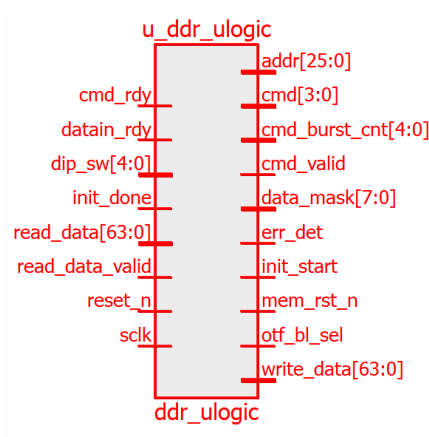

Figure 3.5. Filtered Module
2. Click on the  (Filter Schematic) button. Figure 3.5 shows the example of a filtered module.